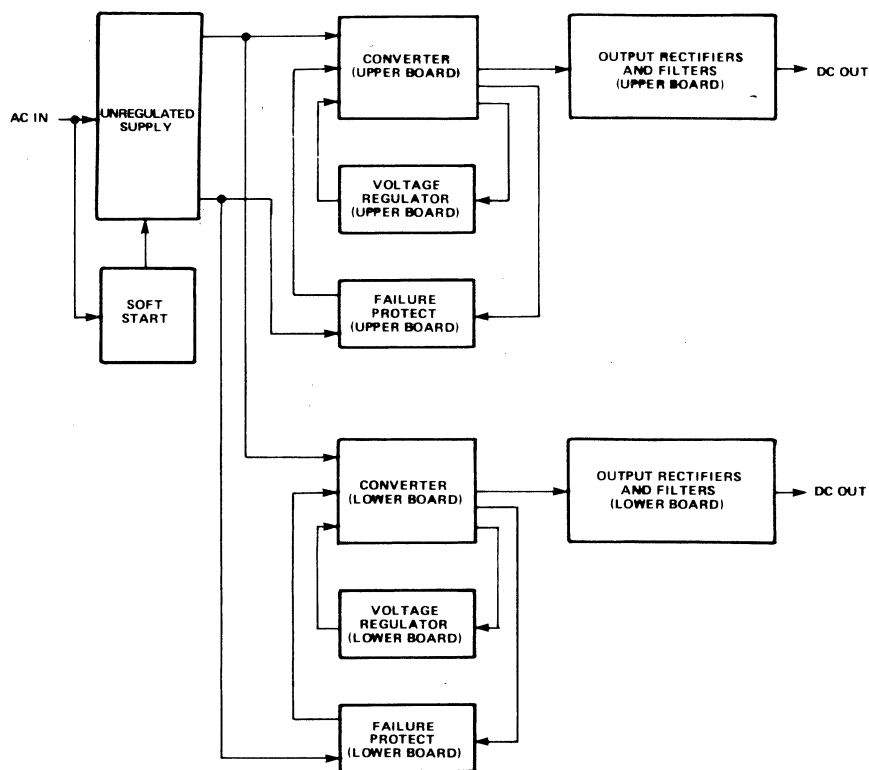

Figure 4-18. Power Supply Block Diagram
4.7.1 FUNCTIONAL ELEMENTS. Refer to figure 4-18. The terminal power supply is located on both the upper and lower boards. Functionally, the power supply can be divided into six major groups. 1) unregulated supply, 2) soft start circuit, 3) the dc-to-dc converters, 4) voltage regulator circuits, 5) failure protect circuits, 6) output rectifier and filter circuits. Of the six major groups only the first two listed, the unregulated supply and the soft start circuit, are not duplicated. The remaining four groups are duplicated on the upper and lower boards and are identical with each other except that the upper board (PWB-1) has a +30 volt output that does not exist on the lower board (PWB-2) circuits. The 1N4007 diode (CR334) in the positive leg of the unregulated dc input located on the bottom board keeps the top board from stealing the stored energy from the bottom board reservoir capacitors (needed to preserve power to the bubble memory system) during ac power down or ac power loss >2.5 cycles. This component is unique to the bottom board power supply. Because the operation of the redundant areas of the power supply is identical, only the upper board circuitry will be examined. The ac input is rectified and filtered in the unregulated (PWB-1) area of the supply. The unregulated dc is applied to both converters. The regulator circuits control their respective converters by altering their frequency and duty cycle to meet input and load variations. The converters use the flyback principle to couple energy in the transformer primary winding to the secondary winding and to the output rectifiers, filters, and load. The output is a stable, well-regulated dc that is used to drive the subsystems within the terminal.